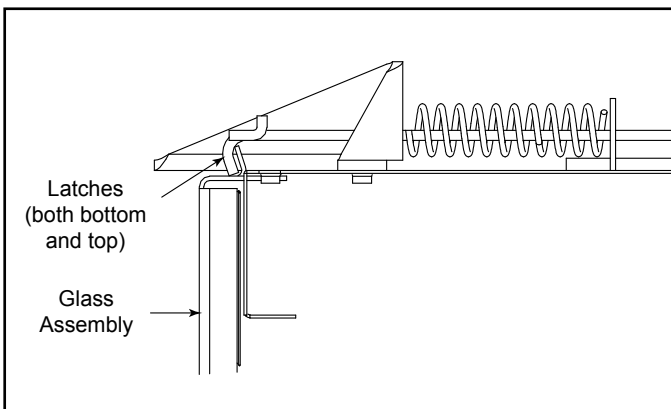

Figure 11.2 Fixed Glass Assembly
- Pull out and latch the four glass assembly latches into the groove on the glass frame. See Figure 11.2.